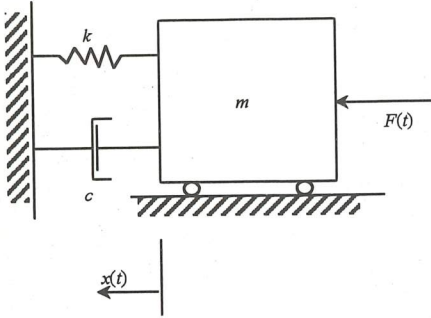

Figure 6. Single Degree Of Freedom system consisting of a mass, m , a spring with stiffness k , and a viscous damper with damping c .
Now let us go back to the theory to extract some more fundamentals we will need during the way to successful vibration analysis. A comparison of equation (2) with that of a single mass-spring system shows that the equation is nothing but a sum of a number of mass-spring systems. In some cases, it can be that several of the resonance frequencies are close to each other, or even coincide. However, more often that is not the case, and then each resonance frequency can be studied separately. Thus it is very important to understand the *Single-Degree-Of-Freedom-system*, the SDOF system, which is a mechanical system with *one mass* connected to earth (ground, i.e. a point with no motion) via a spring and a damper, see figure 6.